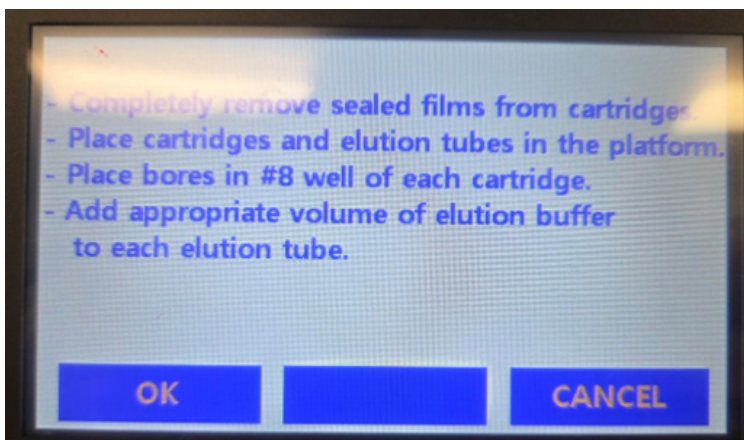

Figure 12: Instructions on the interface of the CleanXtract LV before starting the run.
5. Two instruction messages will appear on the CleanXtract LV display: one instructing to close the door of the device and the other instructing various sample related matters, see Figure 12. Make sure to follow these instructions thoroughly to prevent an error from occurring.